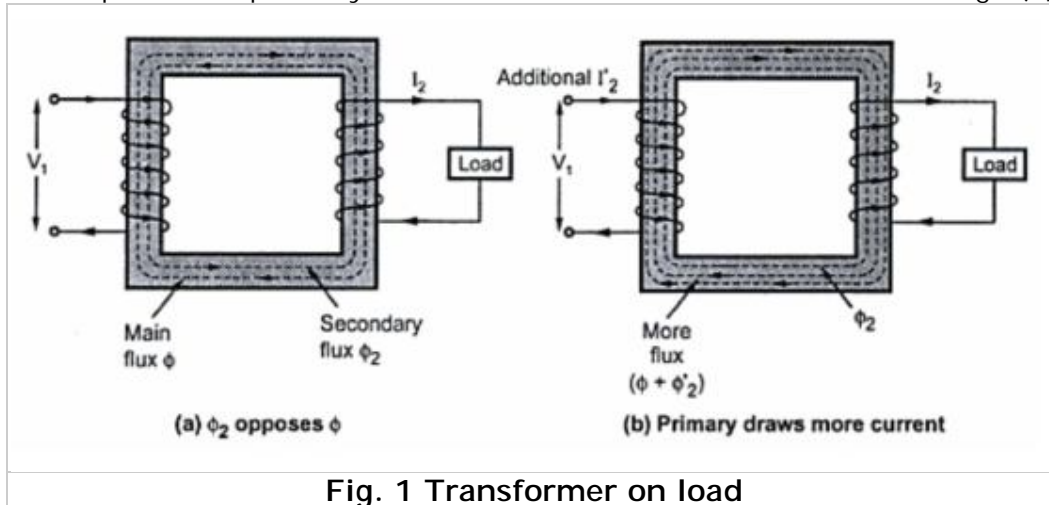

Fig. 1 Transformer on load
m.m.f. is $N_2 I_2$ called demagnetising ampere-turns. This is shown in the Fig.1(a).
This additional current drawn by primary is due to the load hence called load component of primary current denoted as I_2' as shown in the Fig.1(b).